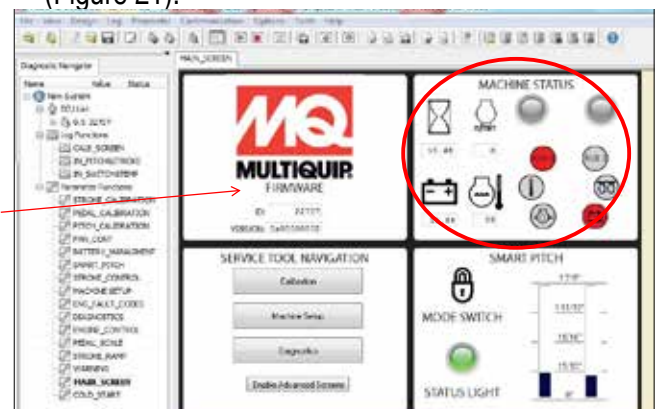

Figure 21. Service Tool Main Screen
6. On the Service Tool software on your laptop, the main screen should show Firmware info loaded from trowel MCU and the Machine Status box shows lamps lit (Figure 21).